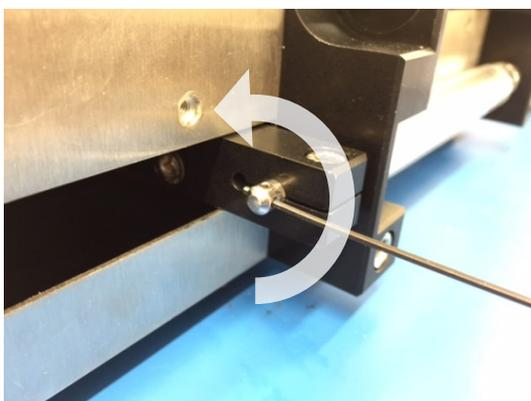

Figure 11 - Loosen end of piston rod (right hand piston shown)
- 7.2.4 The piston assembly comprises four parts (see Figure 2). The piston seal is fitted between the piston seal retainer and the piston washer. As the piston rod is screwed onto the thread of the piston seal retainer, the seal is compressed between the retainer and the washer causing it to expand outwards to form a seal between the piston head and the wall of the glass tube. To release this seal, the piston rod must be un-screwed. Using the 1.5mm hex key, turn the end of the piston rod anti-clockwise to reduce the tension in the piston seal, as shown in Figure 11.